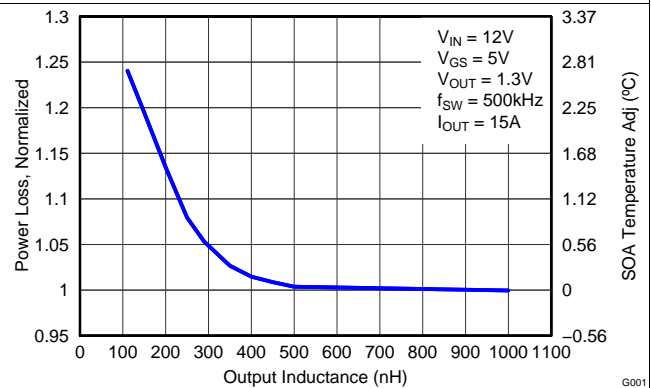

Figure 8. Normalized Power Loss vs Output Inductance
- Normalized Power Loss for output inductor ≈ 1.13 (Figure 8)
- SOA adjustment for output inductor $\approx 1.5^\circ\text{C}$ (Figure 8)